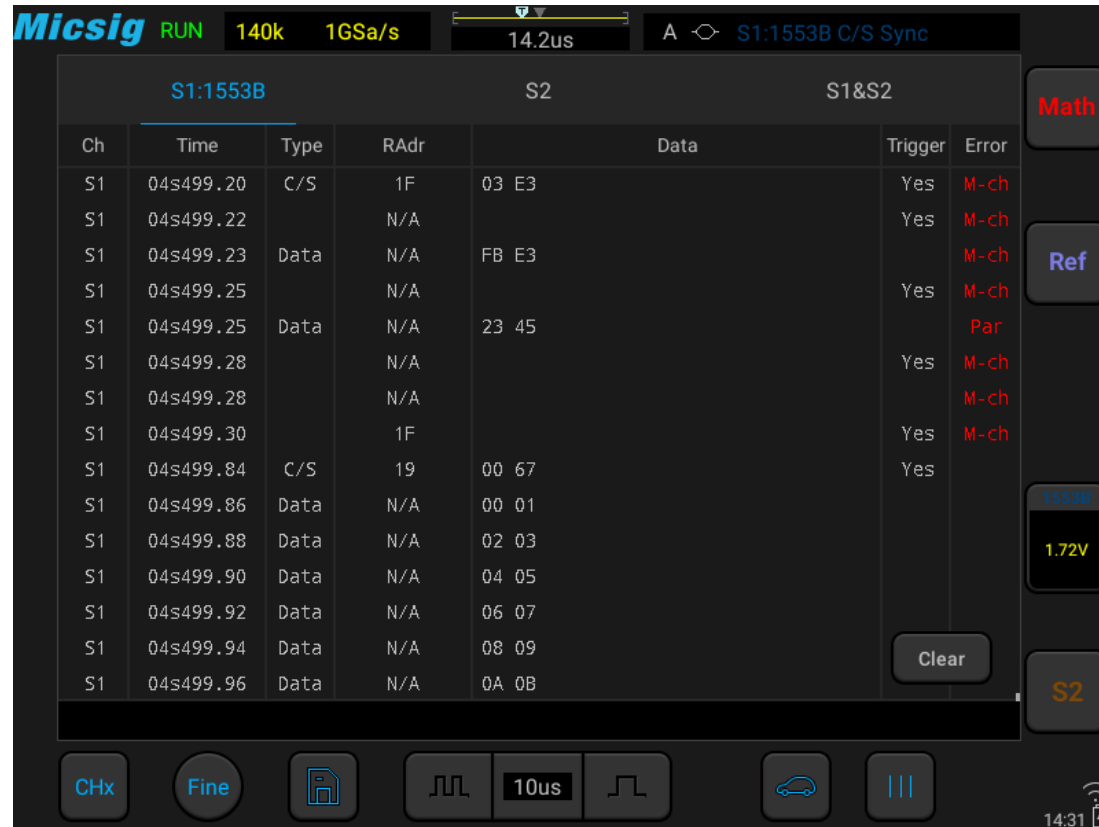

Figure 13-33 1553B Text Interface
**1553B text interface description, as shown in Figure 13-33:**
- (1) “Ch”: bus channel.
- (2) “Time”: intervals between the last read/write operations to current read/write operations.
- (3) “Type”: frame type (data frame DATA, command/status frame C/S, others N/A).
- (4) “RAdr”: remote terminal address, displayed in the selected numeration system (N/A for no content display).
- (5) “Data”: content of the transmitted information, displayed in the selected numeration system.
- (6) “Trigger”: “Yes” means reach trigger condition.
- (7) “Error”: displays the frame error type (parity error Par, Manchester coding error M-ch).